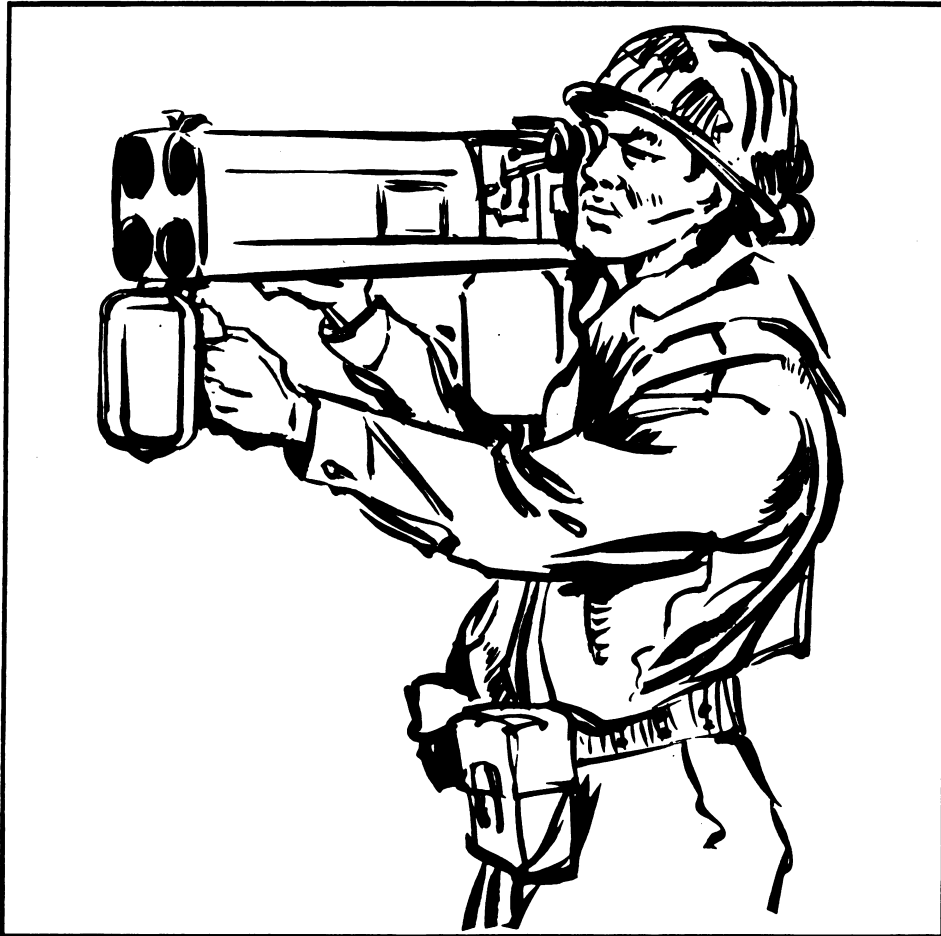

Figure 3
3. Place the launcher on the right shoulder (fig. 3).